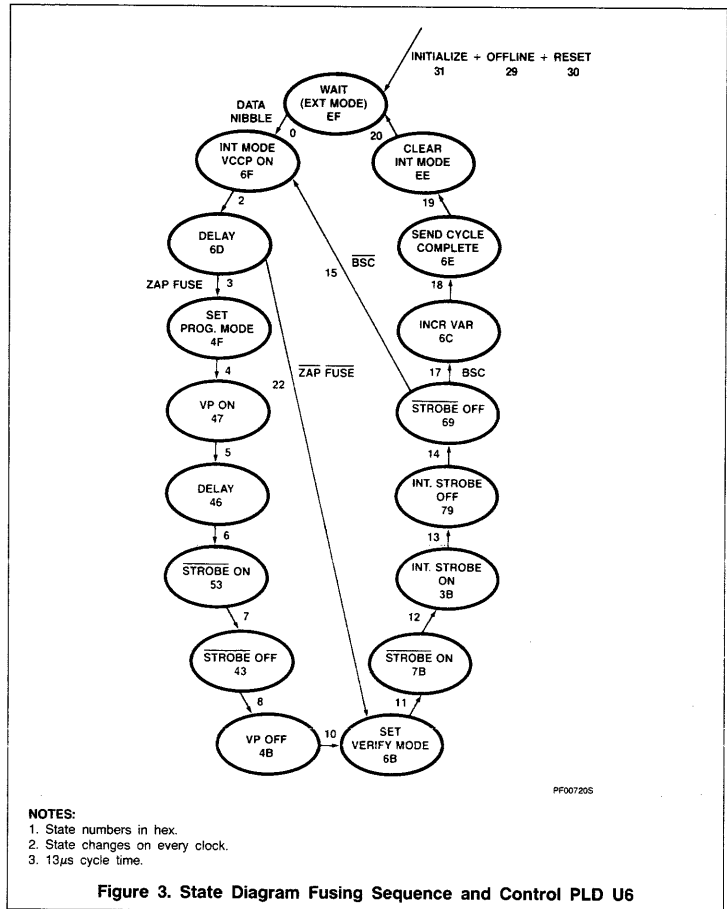
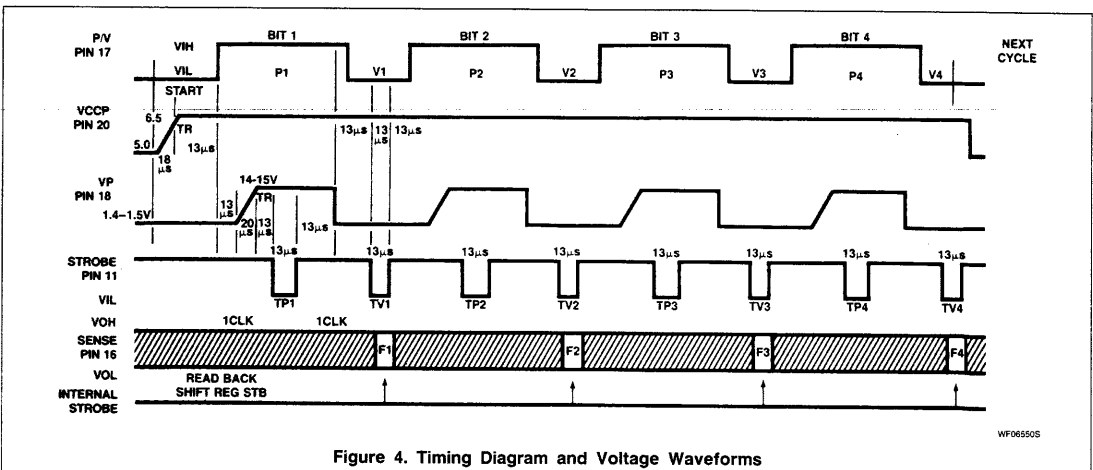

Figure 3. State Diagram Fusing Sequence and Control PLD U6
Figure 4. Timing Diagram and Voltage Waveforms
10. Fusing sequence starts. See Figures 3 and 4
- a. If next TERM ADDRESS is different from the previous one, go to (4)
- b. If next address is in sequence with the previous VARIABLE ADDRESS and in the same TERM, go to (8)
Figure 3 shows the sequence of fusing operation while the system is in internal mode. Figure 4 shows the timing diagram and voltage waveform of the fusing sequence of four consecutive fuses.
During the fusing cycle it assumes a value of 8.25V to 8.75V for the duration of the entire cycle (four fusing pulses - See Figure 4).